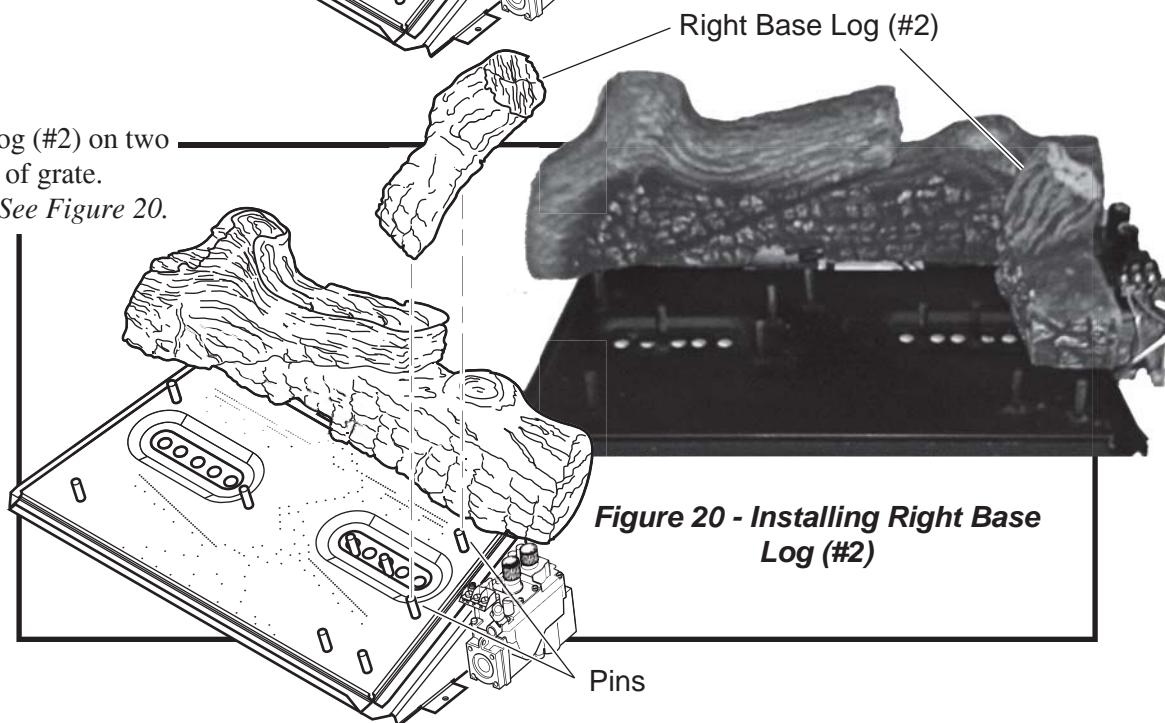

Figure 20 - Installing Right Base Log (#2)
2. Place right base log (#2) on two pins on right side of grate. See Figure 20.